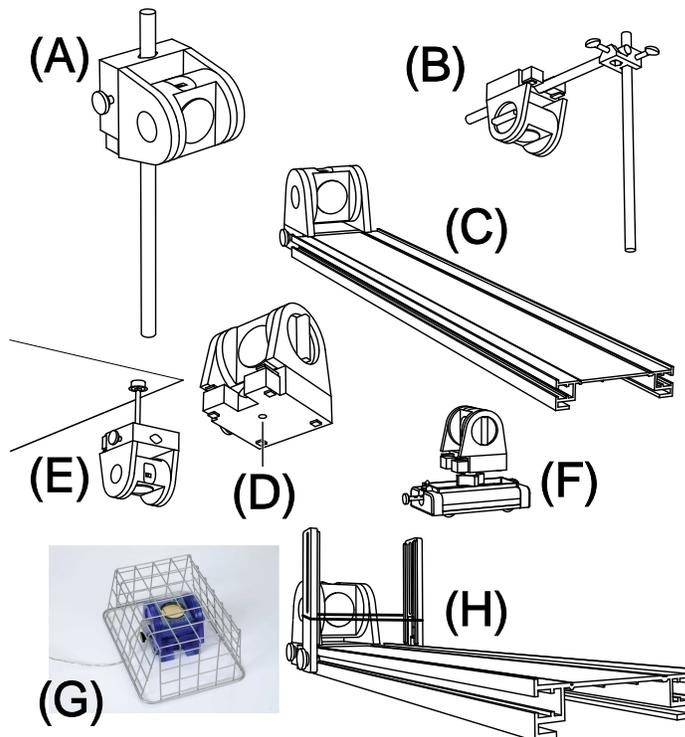

Figure 2. Mounting options for the Motion Sensor.
As shown in Figure 2, the Motion Sensor can be mounted on a vertical rod (A) or a horizontal rod (B). Integrated clips also allow it to be attached to the end of a dynamics track (C).